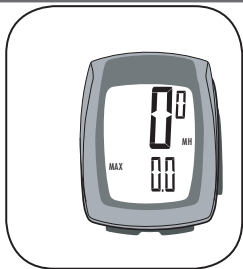

Figure 15- MAX screen
1. Cycle **Mode** to TRP (Figure 15).
If the computer is giving erratic information, the computer or heart rate strap battery may be running low on power (normally accompanied by the low battery icon, Figure 15). Replace the batteries whenever the computer malfunctions, or every 6 months. When purchasing new batteries, it is best to take the old batteries with you. However, this is the generic description for the proper battery: